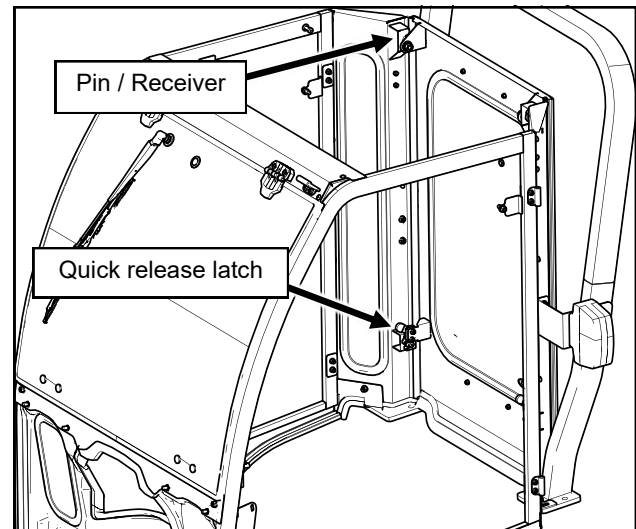

Fig. 12.1 (Rear Panel Installation)
12.1 Lift rear panel and slide the upper pins into the receivers on the rear legs. Engage the lower quick release latches at this time. See Fig. 12.1.
*Note: The quick release latches require (2) clicks to be fully locked. Press the rear panel in from the outside in these locations to double click the latches.*